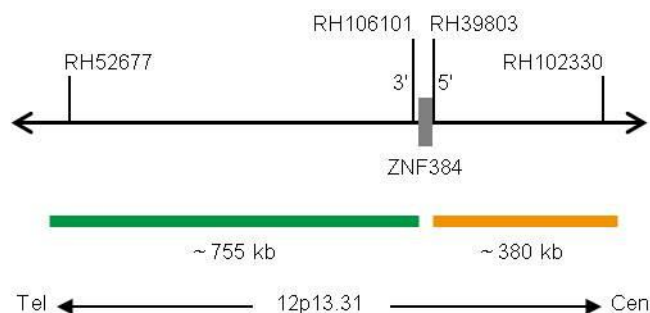

Fig. 1: SPEC ZNF384 Probe map (not to scale)
- ZyGreen (excitation 503 nm/emission 528 nm) labeled polynucleotides (~10.0 ng/μl), which target sequences mapping in 12p13.31\* (chr12:6,016,809-6,771,300) distal to the ZNF384 breakpoint region (see Fig. 1).
- ZyOrange (excitation 547 nm/emission 572 nm) labeled polynucleotides (~4.5 ng/μl), which target sequences mapping in 12p13.31\* (chr12:6,799,546-7,175,222) proximal to the ZNF384 breakpoint region (see Fig. 1).